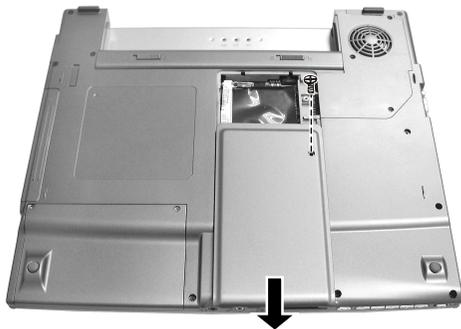

Figure 2-13 Remove the compartment cover
3. Remove one screw to access the DDR-SARAM's socket. (Figure 2-13)